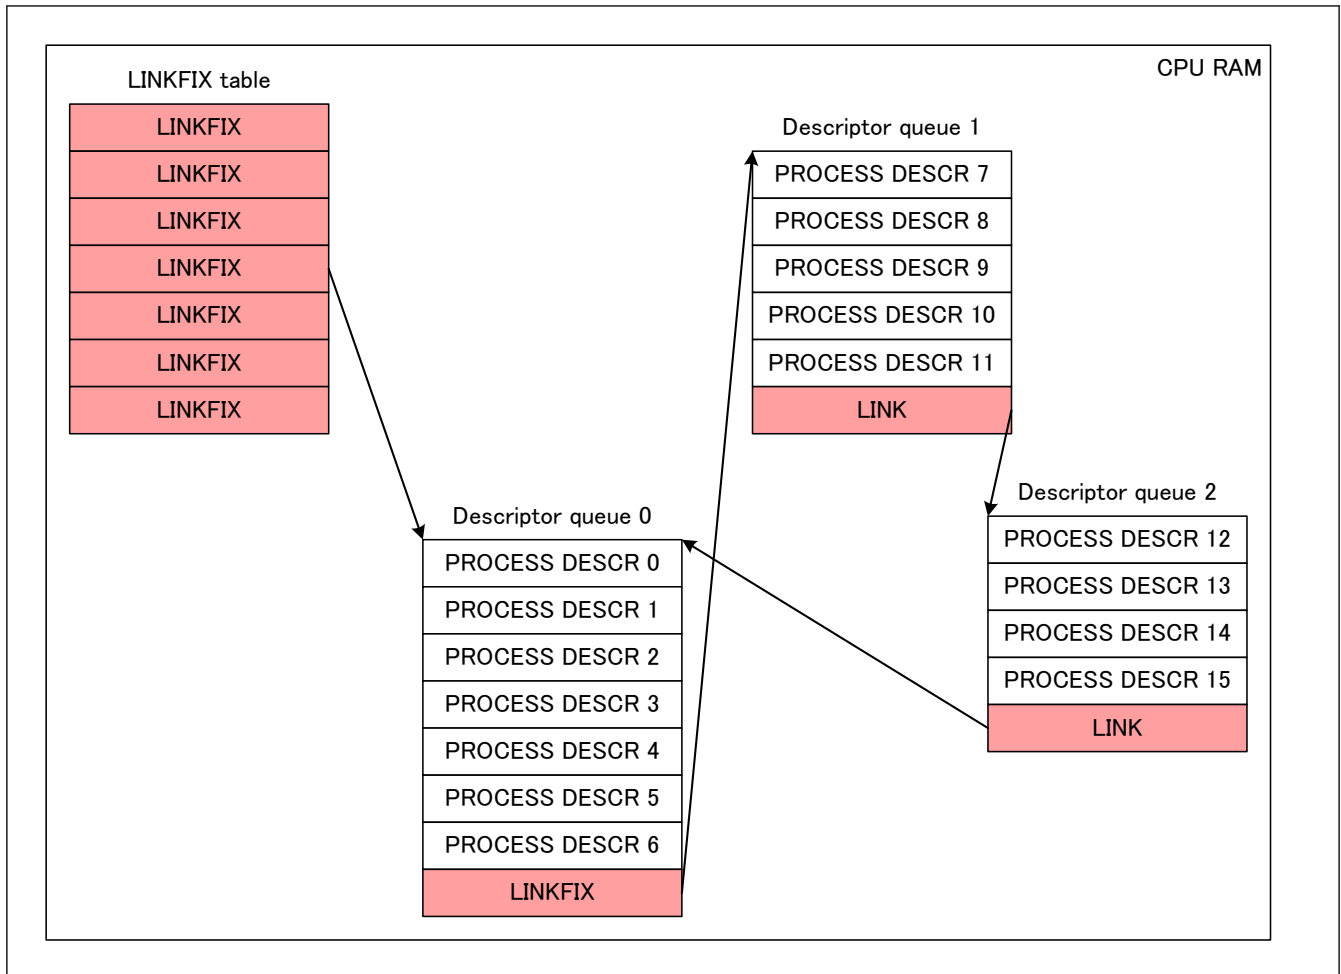

Figure 34.32 Cyclic descriptor queue example
The AXI master accepts two kinds of descriptor queues: linear descriptor queues and cyclic descriptor queues. A linear descriptor queue is a queue which is ended by a terminate descriptor. A linear descriptor queue example is described in figure Figure 34.31. A cyclic descriptor queue is a queue which is looping on itself. A cyclic descriptor queue example is described in figure Figure 34.32.
- A process descriptor (PROCESS DESCR in Figure 34.31 and Figure 34.32) correspond to a FEMPTY_IS, FEMPTY_IC, FEMPTY_ND, FEMPTY, FEMPTY_START, FEMPTY_MID or FEMPTY_END descriptor for an RX queue (see section 34.5.3.5. AXI Master Interface), to a FSINGLE, FSTART, FMID, FEND or EOS descriptor for a TX queue (see section 34.5.2.2. AXI Master Interface) and to a FEMPTY_ND for a TS queue (see section 34.5.4.2. AXI Master Interface).